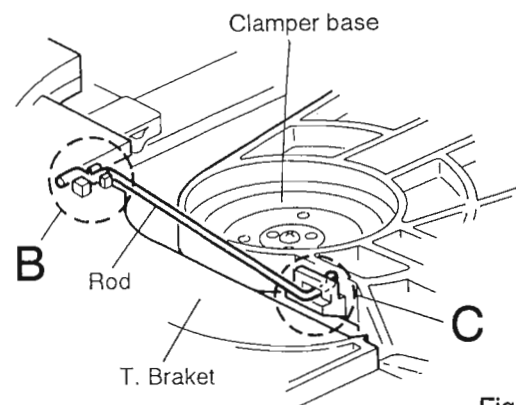

Fig.3-36
■ Removing the CD tray assembly (See Figs.3-36~3-38)
4. From the T.bracket section "B" and clamber base section "C",remove both of the edges fixing the rod (See Figs.3-36 and 3-37).